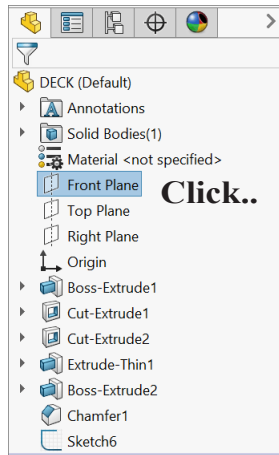

Fig. 48
Step 8. Click **Front Plane**  in the Feature Manager to select plane, **Fig. 48**.